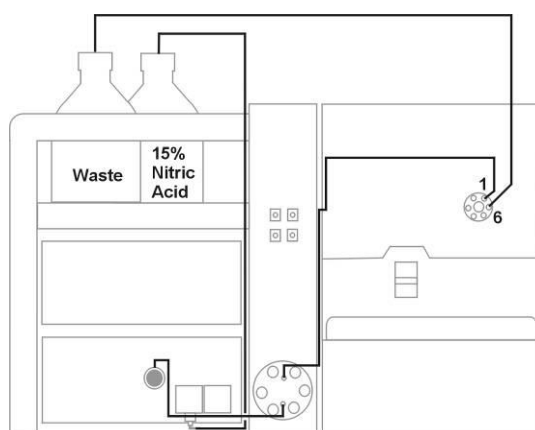
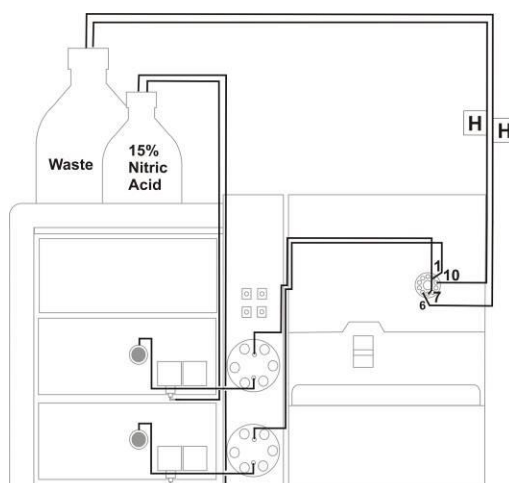

Figure 15. Flow path configuration principle for passivation of the metal parts in a **single channel** ALEXYS system.
Figure 16. Flow path configuration principle for passivation of the metal parts in a **dual channel** ALEXYS system.
- Make the tubing connections as depicted in Figure 15 or Figure 16 by attaching/detaching the appropriate parts. If all the tubing in the system was already connected, make sure to disconnect the tubing between the degasser and pump at the degasser side.